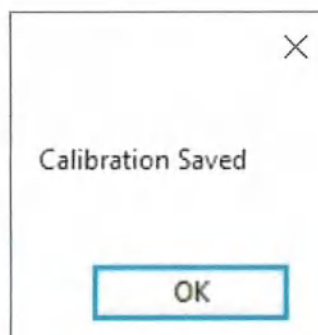

Figure 44
9.5.5.8 If you press the SAVE button, the message Calibration Saved [Figure 44] will be displayed and you can complete the calibration by pressing the OK button.